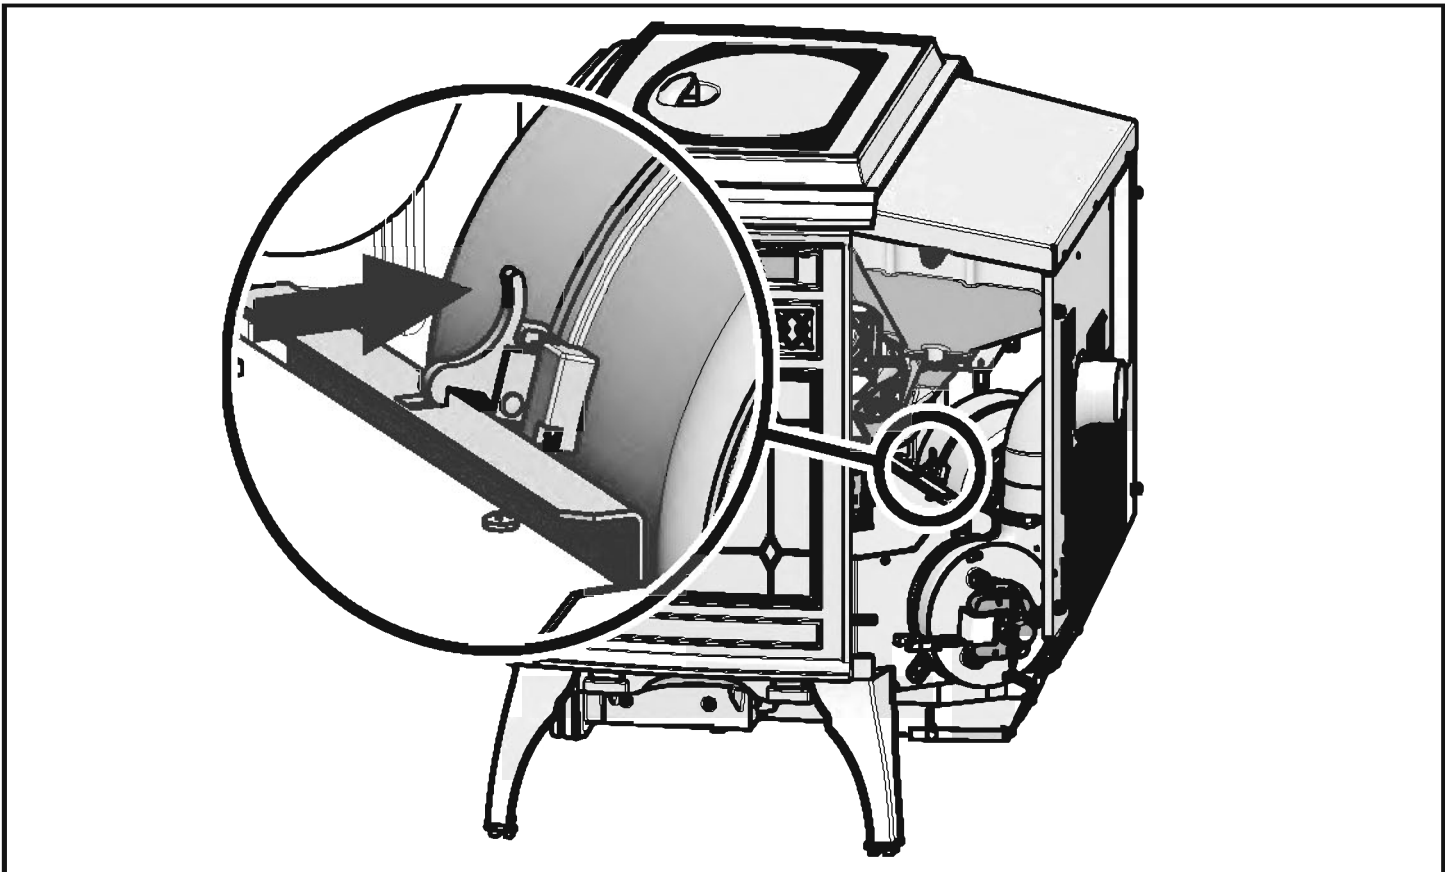

Figure 21.1
5. Reach behind the blower and release the latch by pushing the top of the latch towards the blower. **Figure 21.1**
8. When the blower is properly positioned the latch will engage the notch to hold the blower in place. **Figure 21.1**